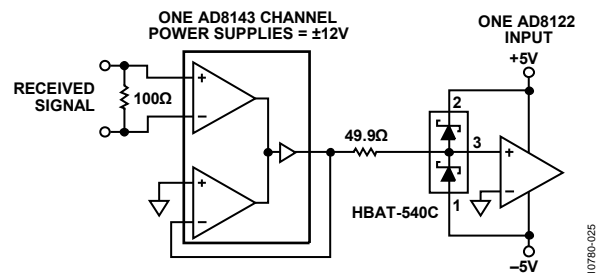

Figure 31. Optional Use of the AD8143 in Front of the AD8122 for Wide Input Common-Mode Range
The AD8122 input voltage range of ± 4 V typical is sufficient for many of these applications. If a wider input range is required, the AD8143 triple receiver (with an input common-mode range of ± 10.5 V on ± 12 V supplies) can be placed in front of the AD8122. Figure 31 shows this configuration for one channel.
- Place an AD8143 in front of the AD8122, as shown in Figure 31.